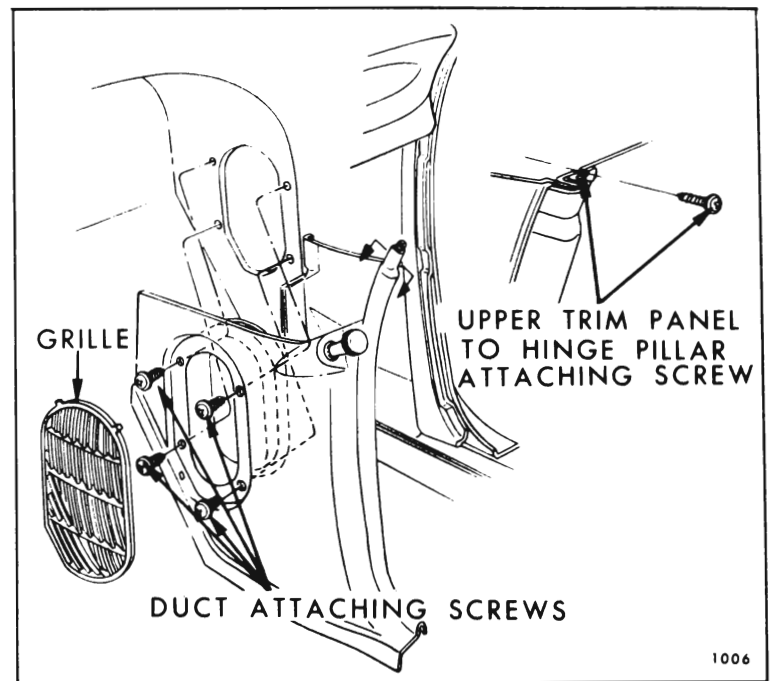

Fig. 3-4—Shroud Side Finishing Panel
1. Remove outlet grille and outlet duct assembly (Fig. 3-4).